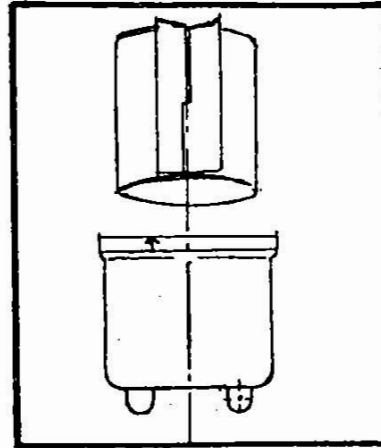

Fig.3.16
5. Place new paper wrapper in the rotor cover (Fig.3-16). Assemble all rotor parts in proper order, and close rotor cover.